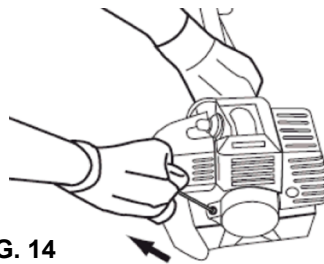

FIG. 14
1. The recoil starter handle (5) is positioned at the back side of the engine unit.
2. Pull on the recoil starter handle (5) to start the engine (Fig. 14).
WARNING: Do not suddenly release the recoil starter handle. Always allow it to return under controlled tension. Do not pull out the recoil starter BEYOND THE RED COLOR BAND at the end of the recoil starter (Fig. 14).